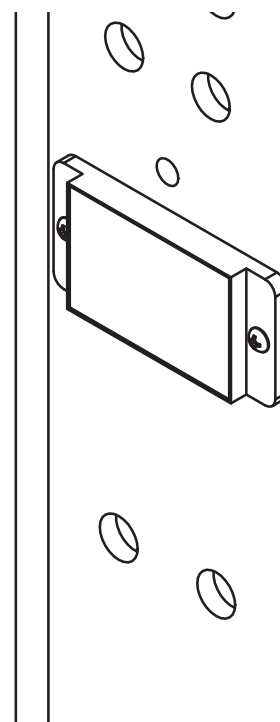

Figure 32
2. Install sensor on desired Track Guard, and install receiver on opposite Track Guard at same height. See Figures 32 and 34.